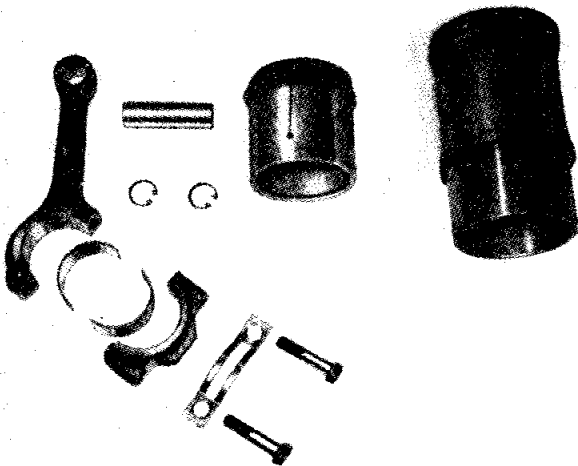
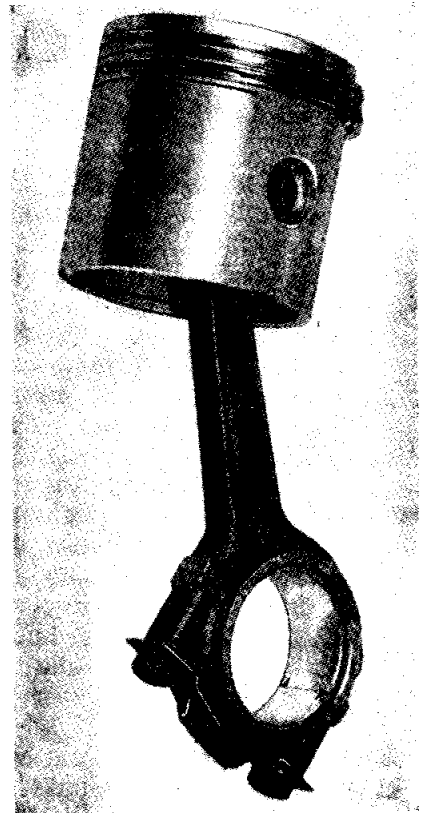

Fig. 6 The Piston and Connecting Rod Assembly in exploded form.
Fig. 7
- (d) **The Connecting Rods** (Fig. 6) are molybdenum manganese steel stampings being provided with phosphor bronze small end bushes and precision type big end bearings. The rod is drilled from the big end bearing end to the small end bearing to provide for the passage of oil under pressure from the main supply. The big end bearing cap is of a special design, the cap securing bolts being inclined at an
- (e) **Aeroflex Compensating Pistons** (Fig 6) are employed, which are made from a special aluminium alloy and each provided with two compression rings and one oil scraper ring. The pistons are graded F, G or H (dimensions on page 2) and this symbol is stamped on the crowns. The piston skirt has a $\frac{1}{32}$ " slot on the non-pressure side and is fitted to the connecting rod so that this slot is away from the point of maximum thrust, Fig. 7 (facing the camshaft side of the engine).